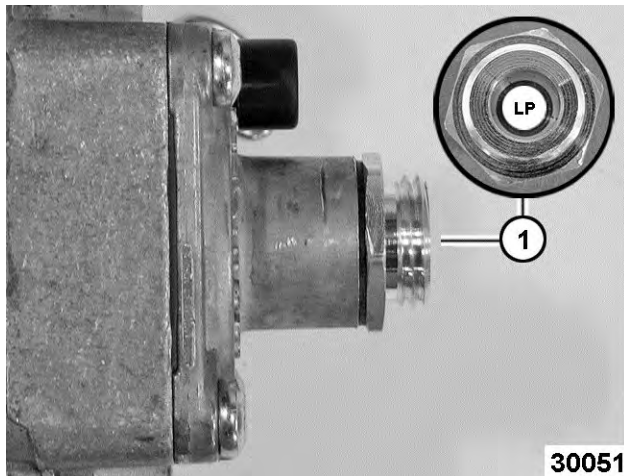

Fig. 70
- If the incoming pressure to the valve is between 11" WC and 14" for Propane gas and the manifold pressure is not maintaining 10" WC, and the cap (1, Fig. 70) is correctly positioned, replace the valve.
1, Fig. 70	Cap position for propane gas (stamped LP).